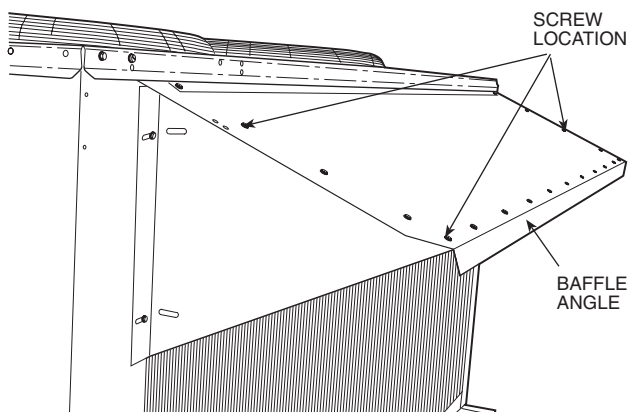

Fig. 4 — Screw Locations
5. Hold hood baffle angle flat against hood top panel and fasten with screws provided. (See Fig. 4.)
6. Secure the hood top to the side brackets using the screws supplied with the kit (see Fig. 4).